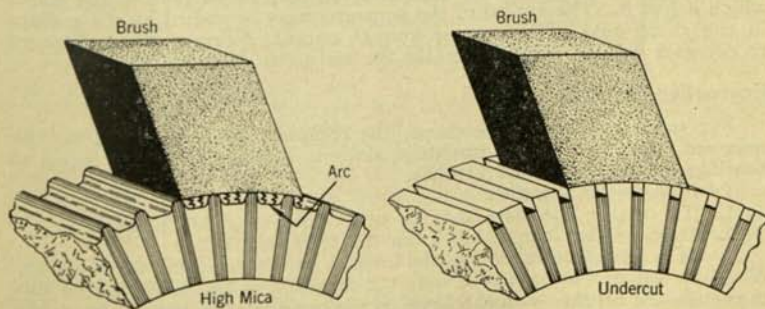

Figure 13. Commutator
8. If the mica insulation between the commutator segments projects above the segments, it will cause the brushes to spark (Figure 13). The mica should be undercut to eliminate this condition. The saw edge of the chute blade cleaner makes a satisfactory tool for cleaning between the commutator segments and for undercutting the mica. The commutator should be checked at least once every six months. It is advisable to remove the brushes before the armature is removed from any motor or generator.